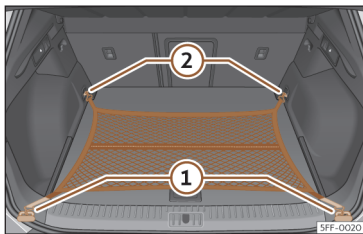

Fig. 182 In the boot: net bag hooked up at floor level.
- Secure the net hooks to the fastening rings >>> Fig. 182 ① and ② >>> ⚠. The bag zip should be facing upwards.